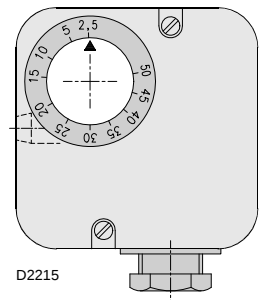

Fig. 21
- adjust the air pressure switch (Fig. 21) on the burner air box, at the start of the scale.